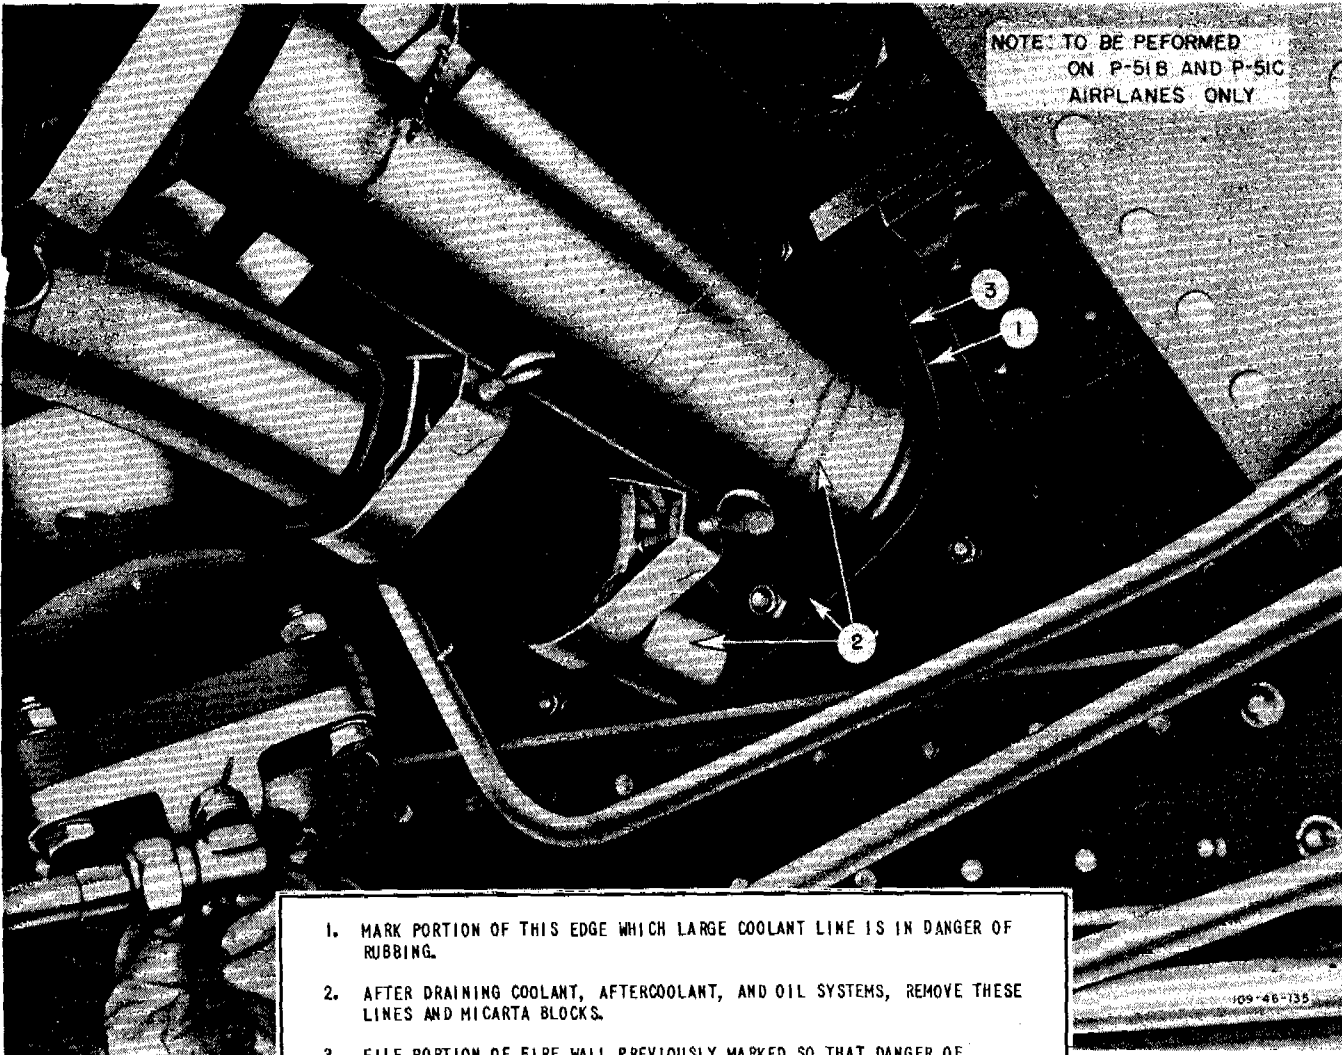

Figure 2 - View Looking Forward at Fire Wall From Right Wheel Well
g. Locate the area on the fire wall which is in danger of chafing the large coolant line, part No. 102-46816, and mark this area with a pencil. (See figure 2.)